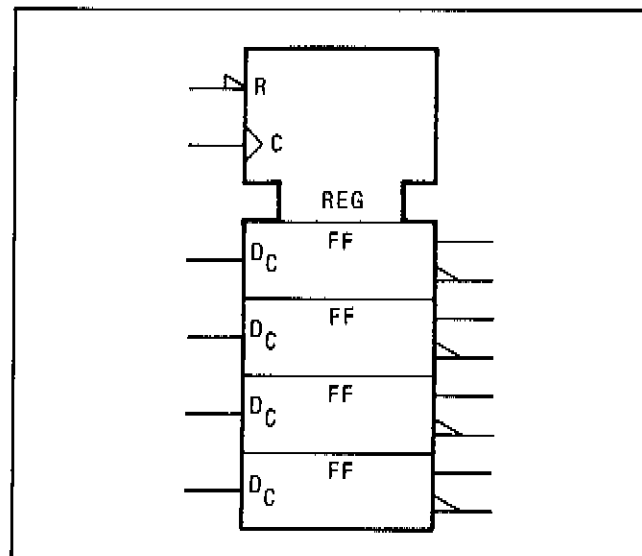

Figure 8-15. Quad D-Type Latch Example
8-65. Figures 8-15 through 8-17 show how the basic symbols can be combined in various ways to illustrate the behavior of fairly complex devices.
8-66. Quad D-Type Latch. Refer to Figure 8-15. The register control block is used to illustrate a quad D-type latch. There is a common active-low reset (R), and a common edge-triggered control input (C). Since there is only one dependency relationship, the controlling input is not numbered and the controlled function (D) are subscripted with a C.